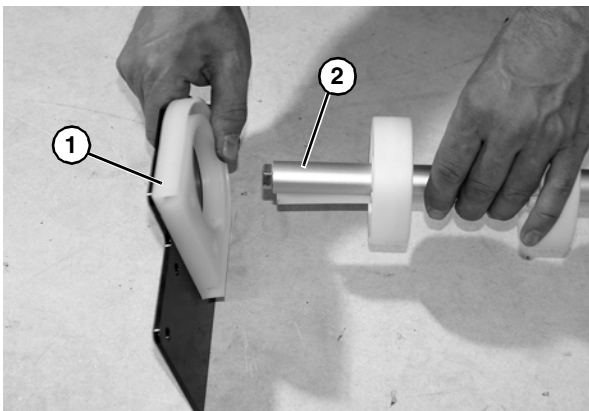

Figure 68
4. Remove end plate (Figure 68, item 1) from roller assembly (Figure 68, item 2). Remove opposite end.